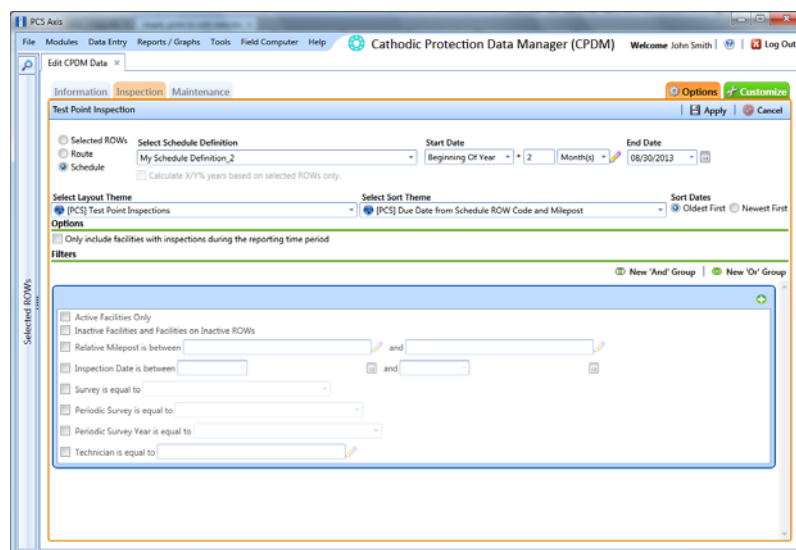

Figure 6-33. Based On Schedule
- 8 To set a schedule date range using dynamic start and end dates, follow these steps (Figure 6-33):